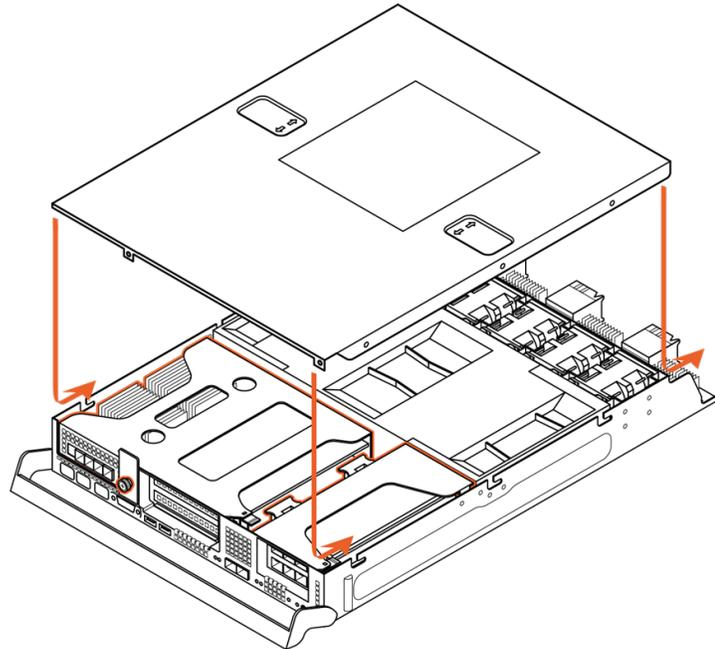

Figure 10-12. Replacing the Controller Cover
1. Align the pins on the left and right edges of the cover with the slots in the controller body, as shown in Figure 10-12.